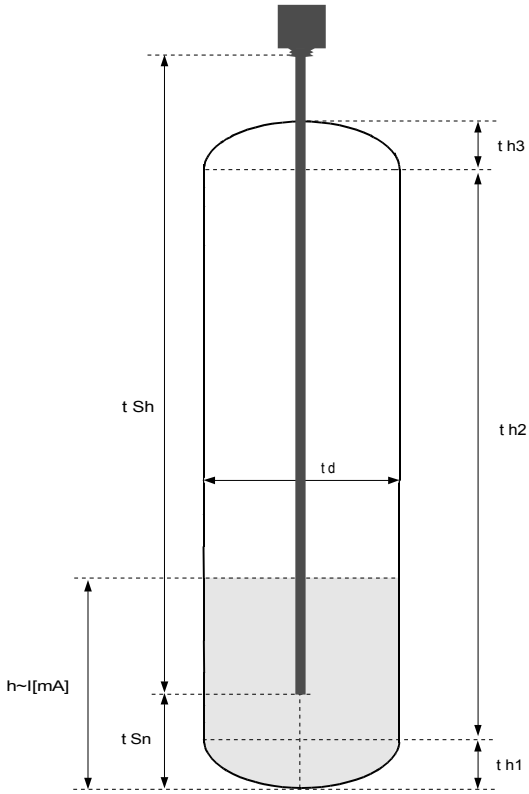
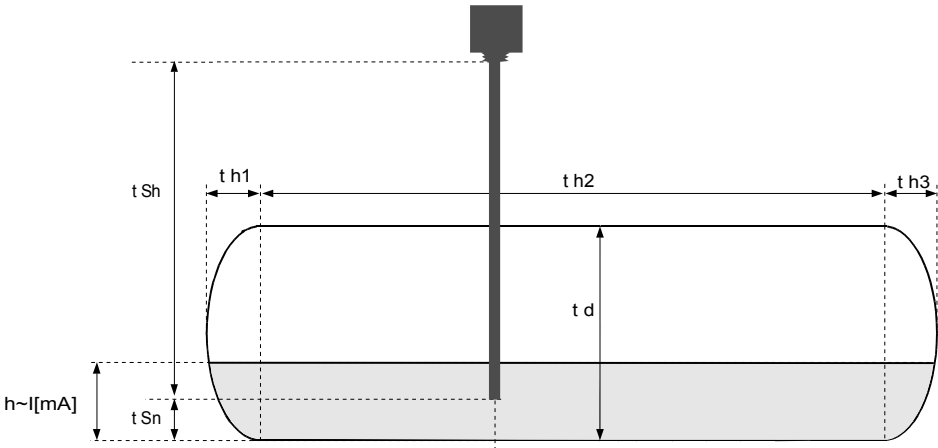

Figure 7.1 Parameters of cylindrical tank in vertical position.
Figure 7.2 Parameters of cylindrical tank in horizontal position.
„**t h1**”, „**t h2**”, „**t h3**”, „**t d**” - the parameters defining shape of cylindrical tank (Figure 7.1 and Figure 7.2).
- „**t Sn**”, „**t Sh**” - parameters defining the length and position of the sensor used to measure level of liquids, gases or solids in the tank (Figure 7.1, 7.2).